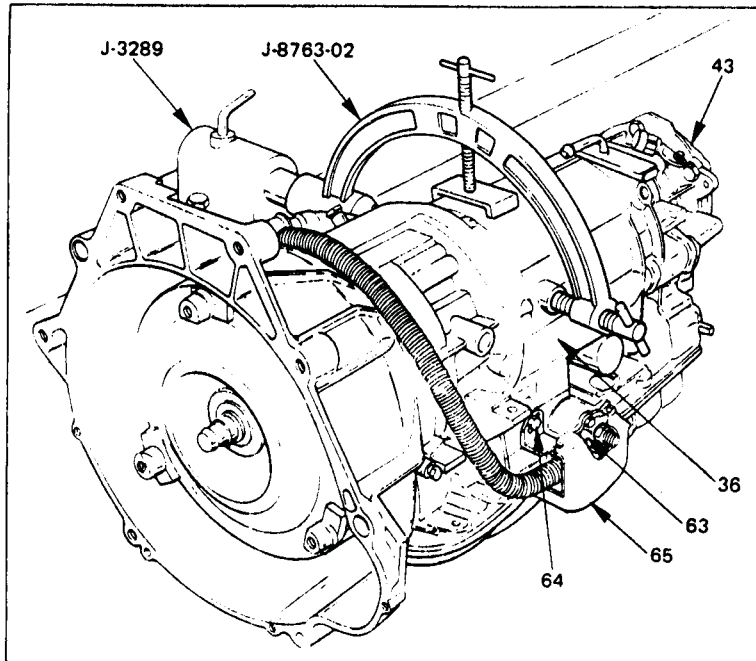

Figure 1
1. Install holding fixture J-8763-02 on transmission, and install the assembly into bench fixture J-3289, as shown in Figure 1.